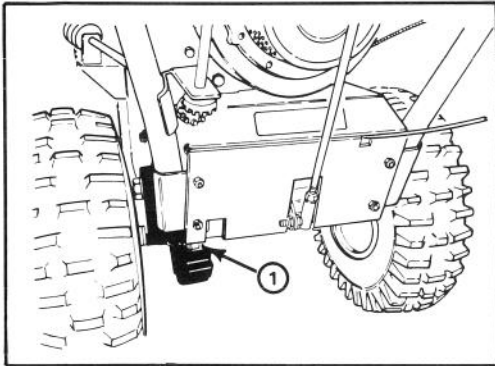

Figure 15
1. Annually, lubricate drive chain with chain lubricant (Fig. 15). Wipe up any excess oil.